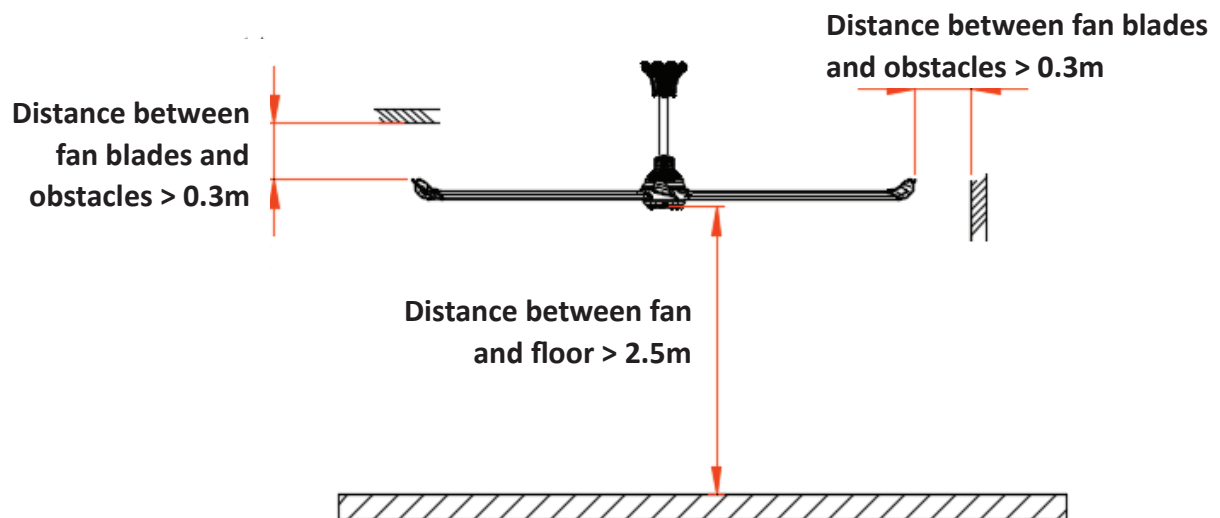

Figure. 6.1
- ① The levelness of the fan. If a serious tilt happens in extension tube or fan blades, it is necessary to use a spirit level to readjust the position;
- ② The safety distance between the fan blades and the obstacles. If the safety distance does not meet the requirements shown in Figure 6.1, please readjust it.